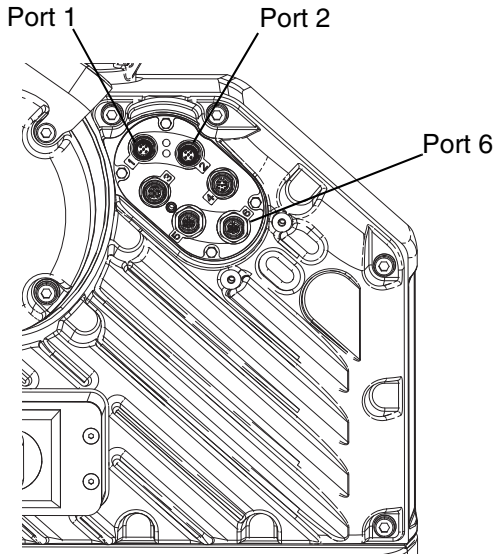

Fig. 23: Driver Port Locations
6. Using the four 10-32 mounting screws included with the kit, mount the base (S) in the holes you drilled.
7. Reattach the CGM (R) on the base (S) with the two screws (T) that were removed in step 5.
8. Reattach the access cover (U).
- Connect the CAN cable included in the kit to either port 1 or port 2 (whichever is available) on the driver. See **Figure 23**.